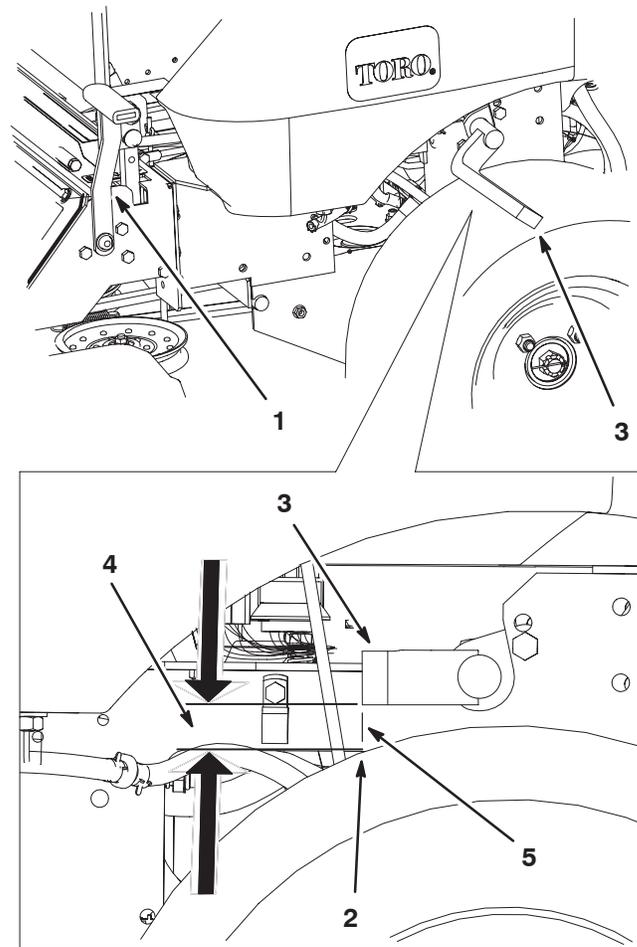

Figure 60
3. Measure the distance vertically between the front of the brake bar and the crown of the tire; the measurement should be 7/8 inch to 1 inch (22 to 25 mm) (Fig. 60).
7. Measure the distance vertically between the front of the brake bar and the crown of the tire; the measurement should be 7/8 inch to 1 inch. (Fig. 60).
9. Engage the parking brake, with the lever up and ensure the brake bar engages the tire (Fig. 60).